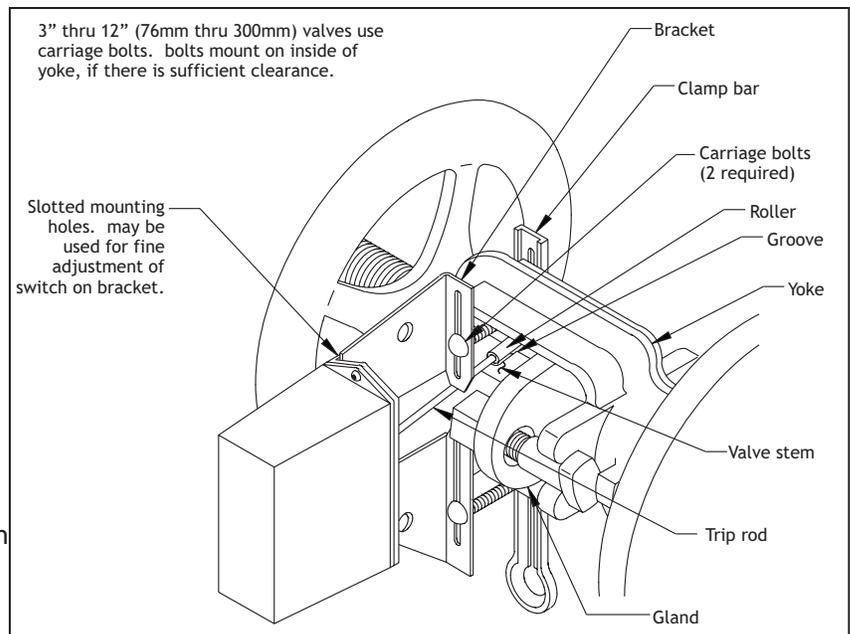

Figure 4: Large Valve Installation
7. Final adjustment is made by loosening 2 screws (see Fig. 4) and sliding the OSYSU on the bracket. Adjustment is correct when switches are not activated with the trip rod seated in the valve stem groove and that the switches activate within one turn when the valve is operated from the FULL OPEN towards the CLOSED position.